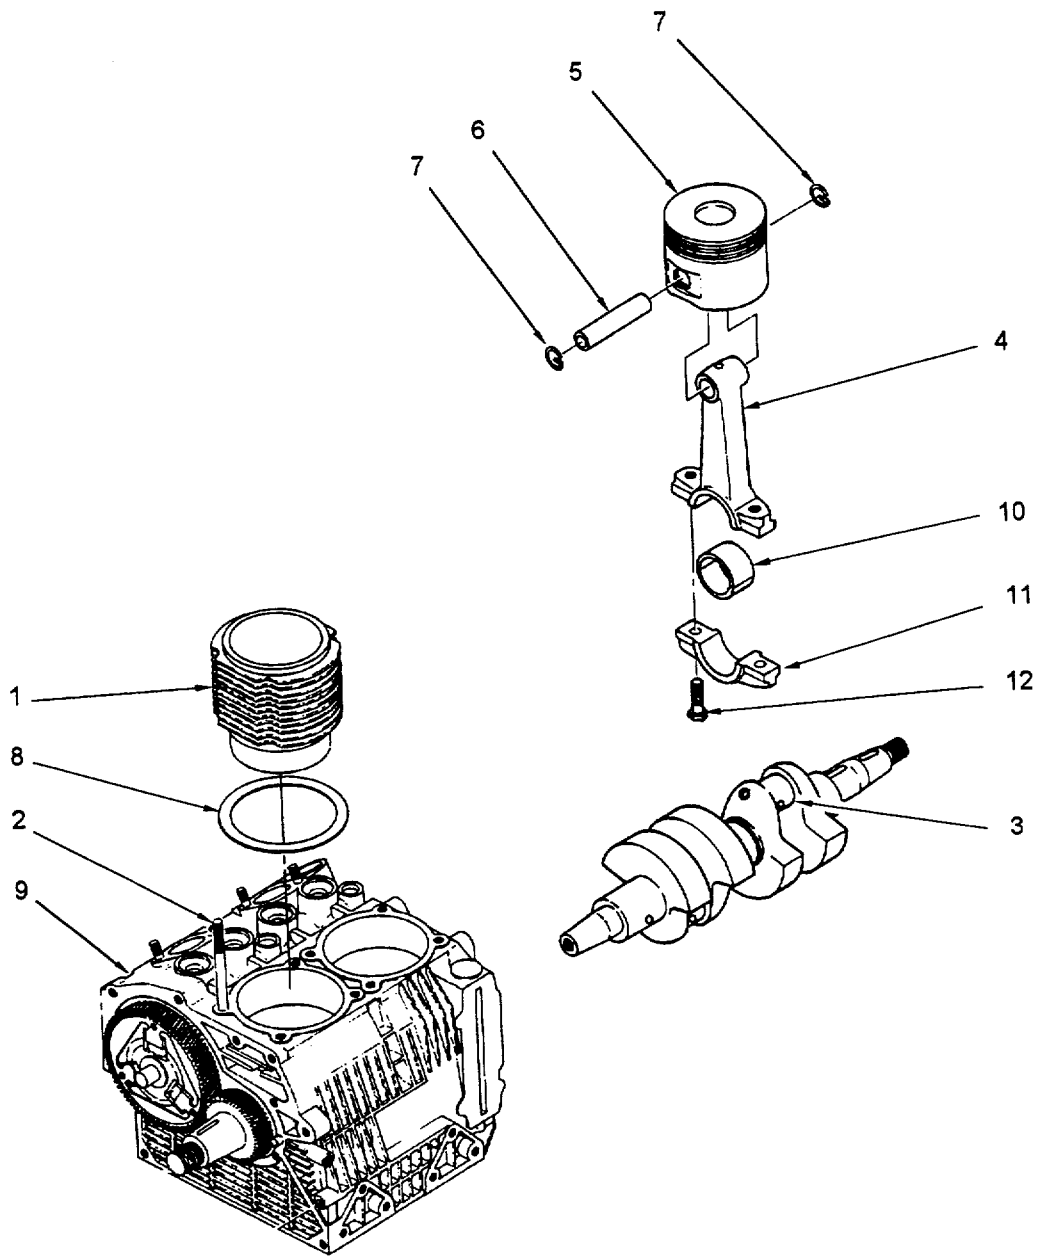

Figure 6-28. Piston Assembly Installation
6.4.6 Install Piston Assembly and Cylinder. (Refer to figure 6-28.)